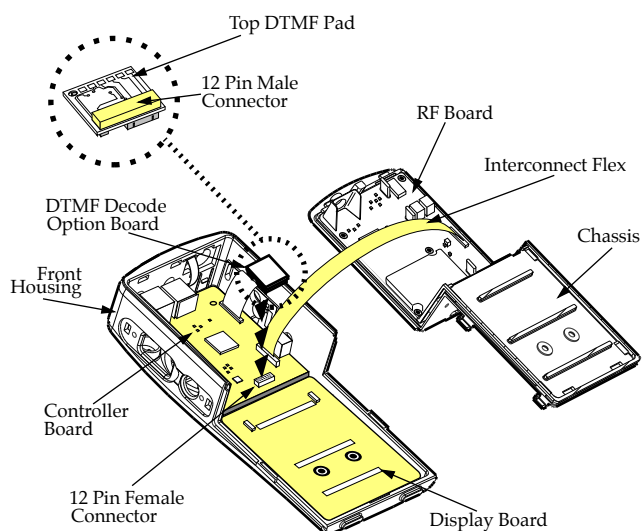

Figure 3-4. Exploded View of the Radio with DTMF Option Board
Please refer to Figure 3-4.
2. Remove the protective liner from the double-faced adhesive located on the foam pad (on the same side of the logic board as the 12-pin male connector). Orient the Option Board so that the 12-pin male connector is at the lower edge and facing downwards. See Figure 3-4.